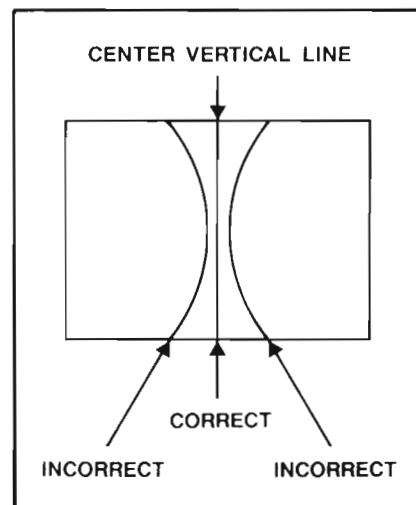

Figure 12
1. Check center vertical line by going to the screen and sighting upward. The line must be perfectly straight. (See Figures 12 and 13.)